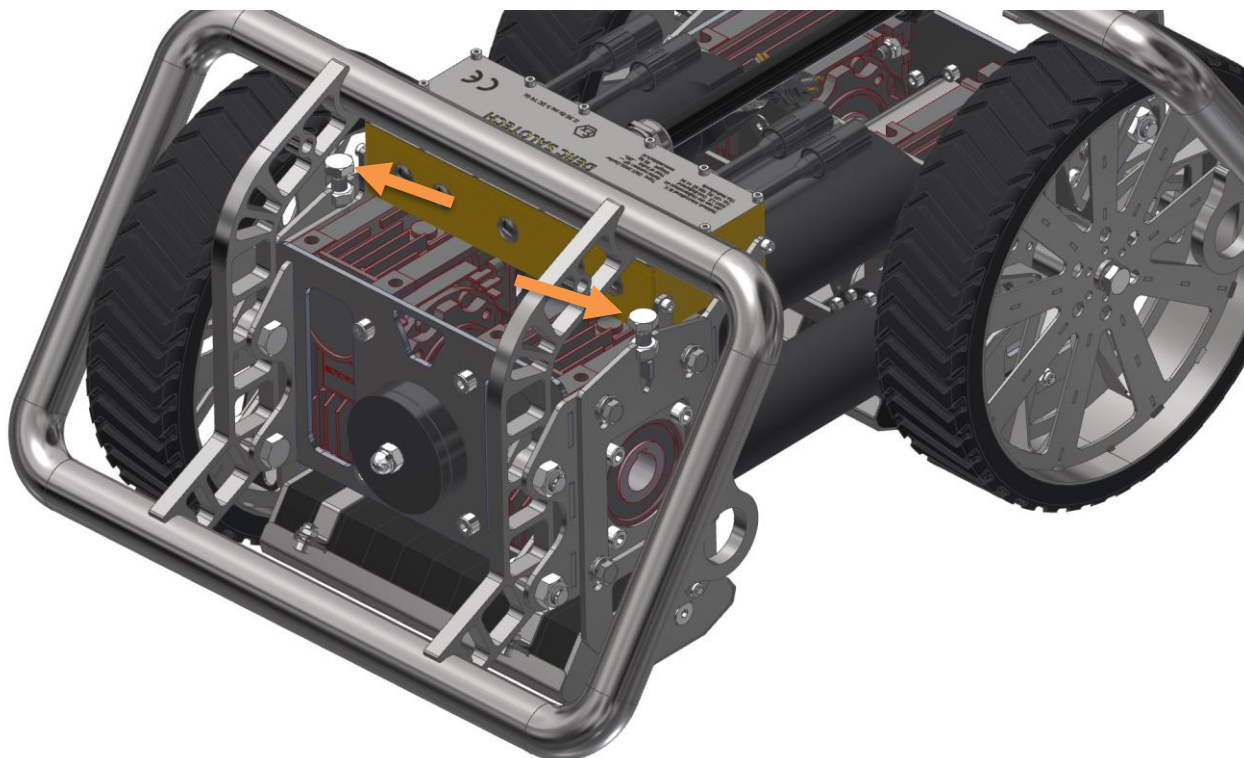

Figure 43 Height adjustment magnets
3. To adjust the magnet, use the indicated bolts Figure 43. Clockwise to move the magnet away from the wall. Counter clockwise to move the magnets to the wall.